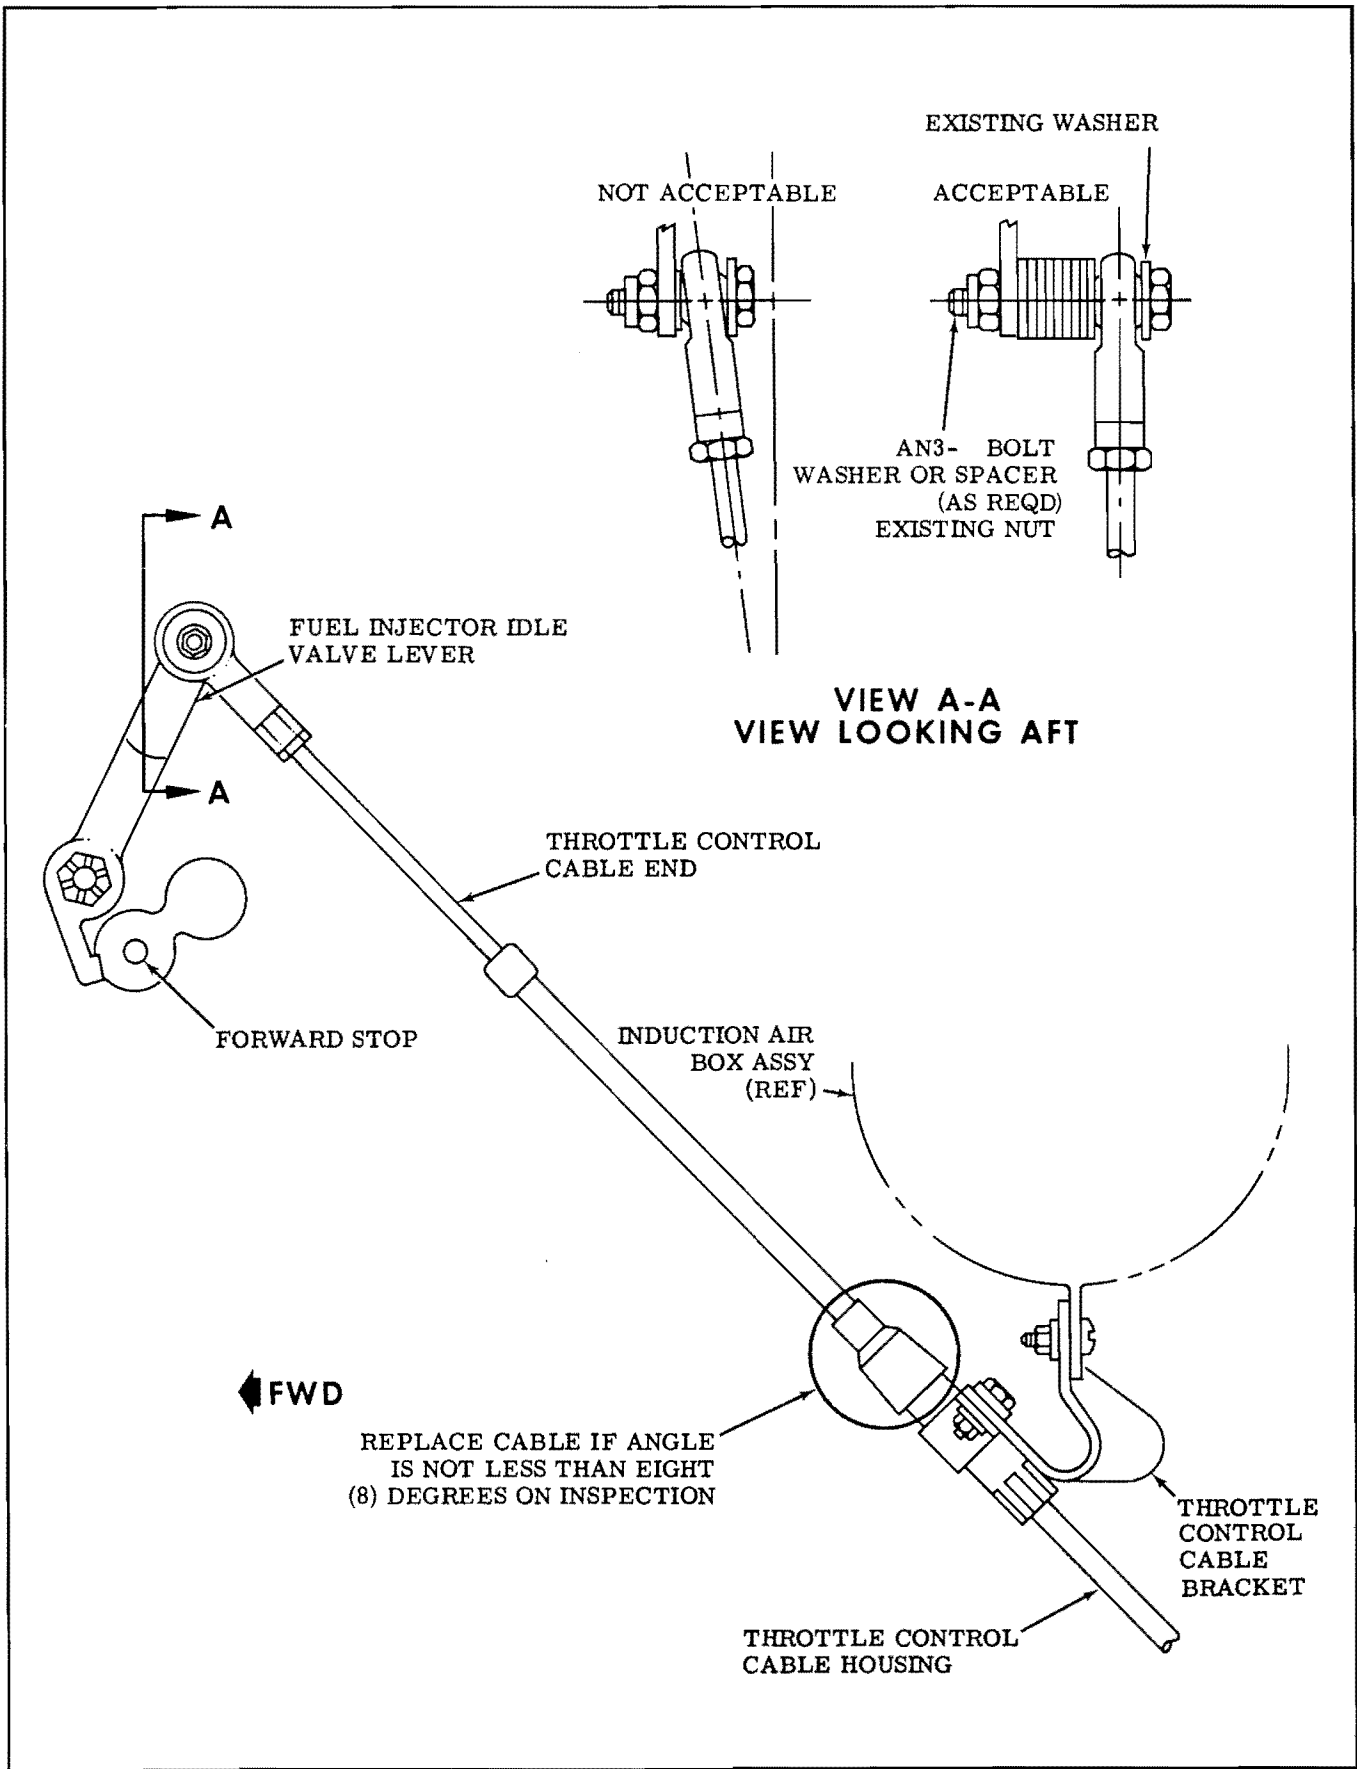

Figure 1.
2. Inspect throttle control cable for misalignment. If misalignment is not less than eight (8) degrees (see Figure 1.), replace cable when complying with Part II of this Service Bulletin.
3. With the throttle in mid-point of the stroke, bend throttle control cable bracket as necessary so that cable housing is straight with cable end (see Figure 1.).
4. With the throttle in mid-point of the stroke, inspect throttle control cable at the fuel injector idle valve lever for proper alignment (see Figure 1.).
5. If the throttle control cable rod end is not in parallel with the idle valve lever surface, remove existing bolt and install new AN3- (length as desired) and shim with washers or spacer to position the throttle control cable rod end in parallel with the idle valve lever surface (see Figure 1.).